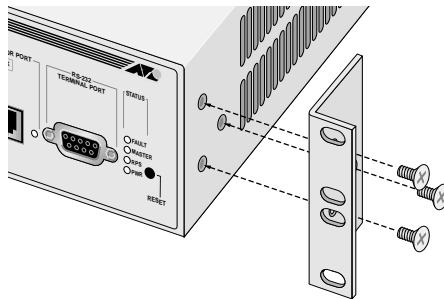

Figure 6 Attaching Rackmounting Brackets
5. Attach the mounting brackets to each side of the switch, using the six flathead screws that came with the switch package as shown in Figure 6.